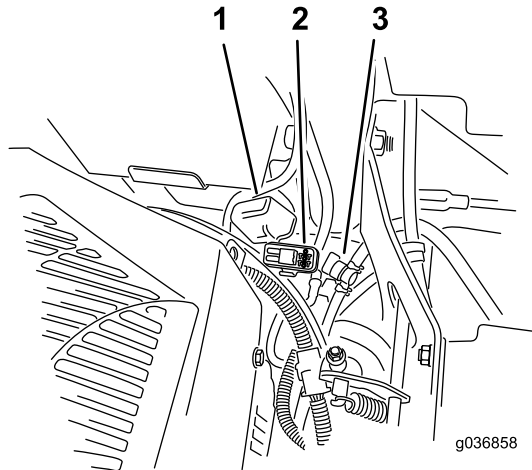

Figure 56
Note: For MyRide machines, ensure that the ground cable does not rub against the trailing arm or lower shock mount (Figure 56).
The fuses are located on the right console next to the seat (Figure 56).
2. Install a new fuse (Figure 56).